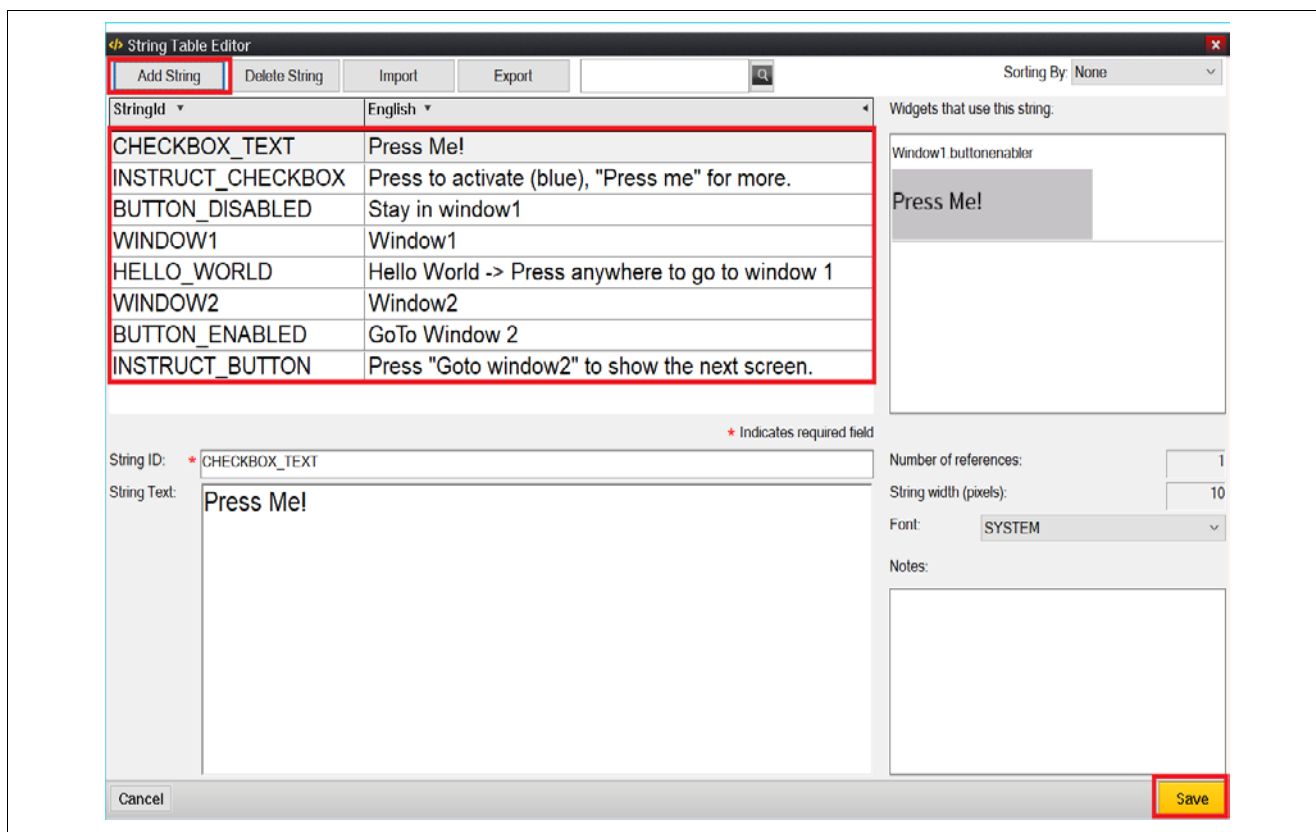

Figure 58. All Strings
6. Continue to click **Adding String**, then edit **String ID** and **String Text** until the table appears like Figure 58. Then click the **Save** button